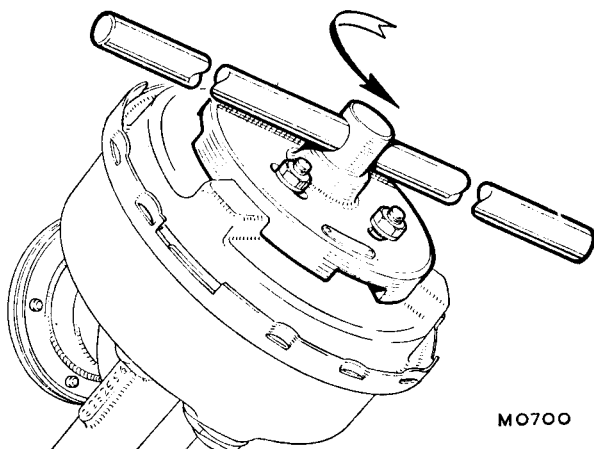

Fig. Mb.3
**EARLY UNITS.** To remove the end cover from the servo shell fit Service tool C2030\* as shown in Fig. Mb.3. Turn the tool anti-clockwise with a ½ in. (13 mm.) square drive socket 'T' bar as far as the stops on the cover will allow and lift off the end cover.